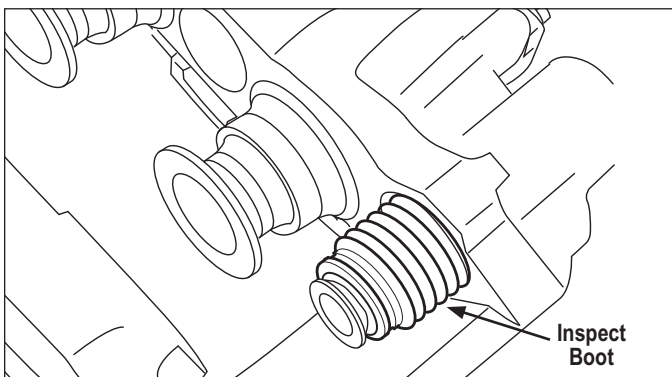

Figure 28 – Guide Pin Boot Inspection (This Image Does Not Show the Carrier)
4.5.4 See Figures 28 and 29. With the pads removed, slide the carrier by hand to the inboard position (See Figure 28). By looking through the opening where the pads are installed – and also from below – inspect the inner boot (9) for each of the guide pins. **INSPECT FOR DAMAGE, CUTS AND CRACKS.** Replace damaged boots immediately to prevent dirt and/or moisture affecting the movement of the guide pins (See Section 5.4). Damaged or corroded guide pins will impair the operation of the brake.